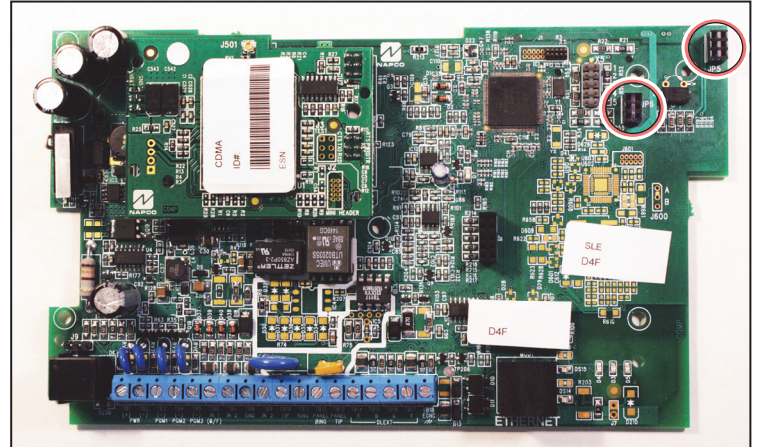

Fig. 3: "Header Sockets" (circled)
4. **Align:** Use Fig. 3 to find the **Header Sockets** near the top of the radio PCB. With radio power off, carefully align the